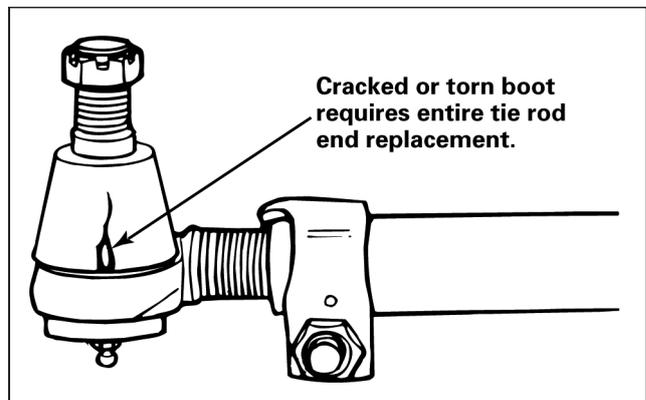

Fig. 1.7
4. Check the tie rod boot for cracks, tears or other damage. Also check the boot seals for damage. Replace the entire tie rod end if the boot is damaged or missing. Fig. 1.7